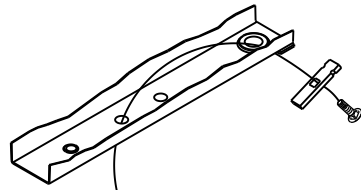

Figure 3
- 4. Fishwire fasteners** - Remove (4) hole plugs from each frame rail. Fishwire the spacers and 7/16" carriage bolts through the access hole and down through the holes in both frame rails, see example in figure 3.
4. Fishwire fasteners - Remove (4) hole plugs from each frame rail. Fishwire the spacers and 7/16" carriage bolts through the access hole and down through the holes in both frame rails, see example in figure 3.